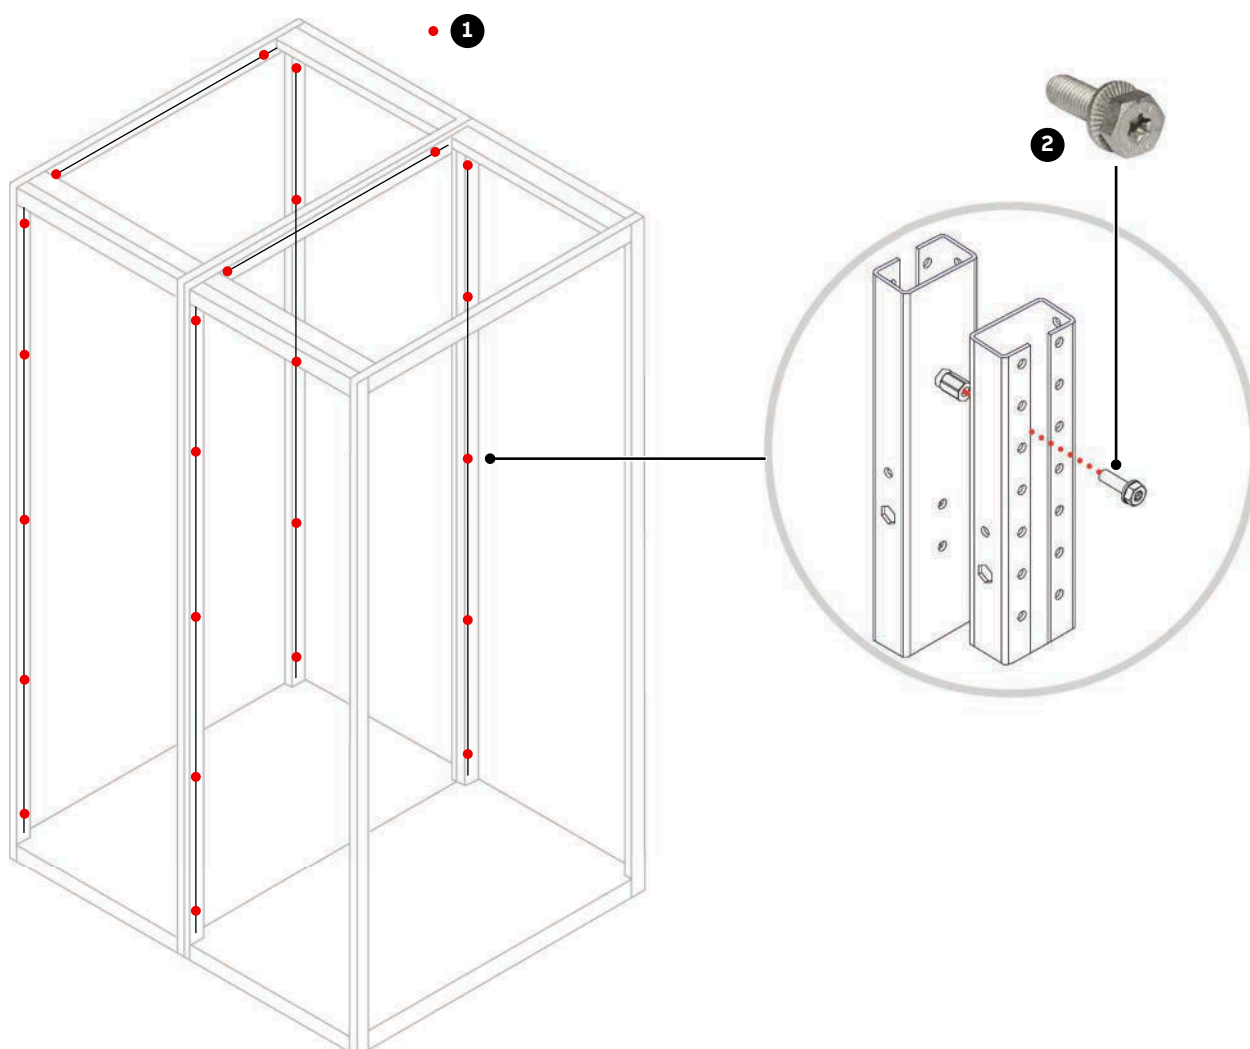

Figure 5–1 Connection point locations on transport units
- Bolt holes are aligned where transport units are joined (see the connection points on Fig. 5–1)
1. Join the transport units at the connection points that are indicated in Fig. 5–1.